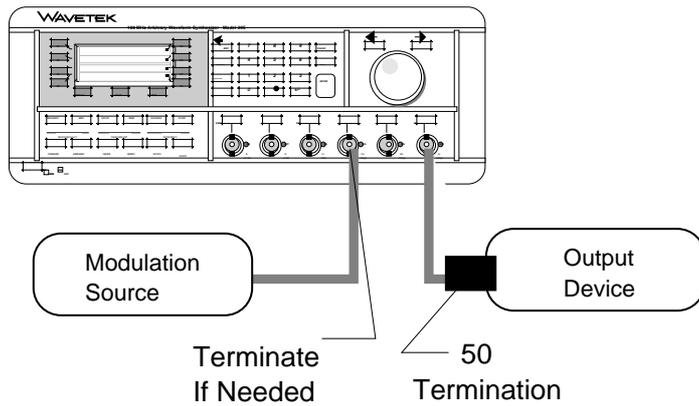

Figure 4-10. AM/SCM Setup
Press the AM IN key and select (F3) "AM (2.5Vpp=100%)." Connect the modulating source to the AM IN connector (figure 4-10).
- Press the AM IN key and select (F4) “SCM (5V_{pp}=200%).” Connect the modulating source to the AM IN connector (figure 4-10).